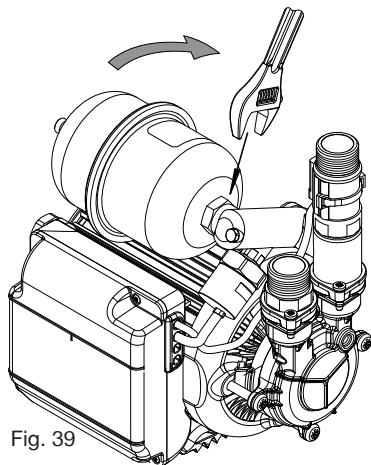

Fig. 39
- Rotate the pressure vessel as shown to unscrew (Figs. 39 or 40).